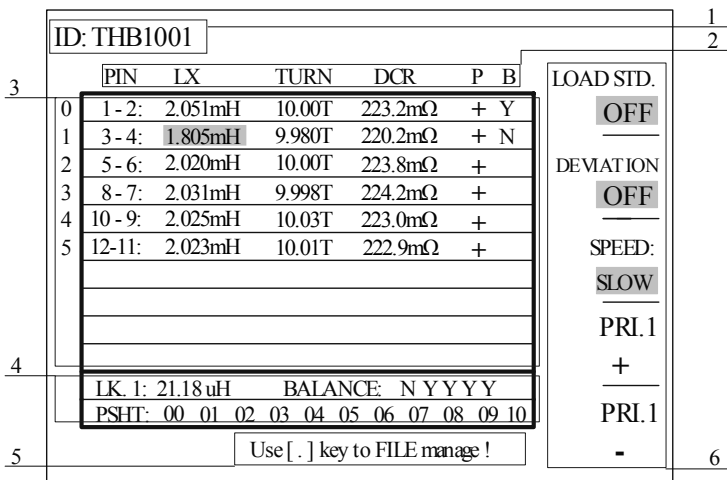

Figure3-2-5-1
<Transformer scanning measuring display>page layout showed as figure 3-2-5-1:
Description for the page layout showed as figure 3-2-5-1:
1. 3-4windings corresponding Lx(Inductance) is disqualified, which is showed as figure 3-2-5-1.